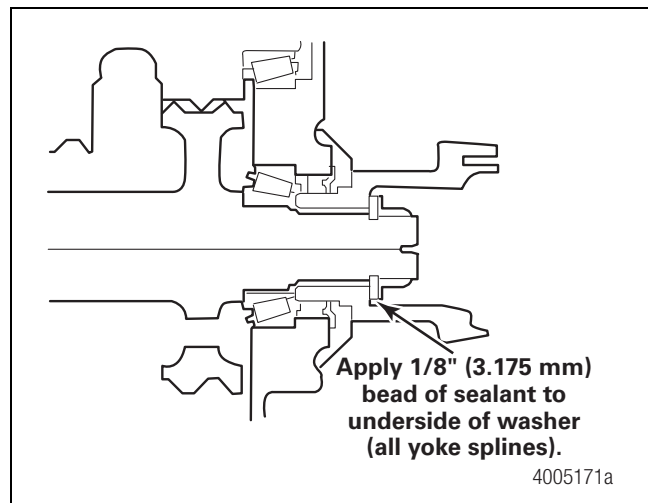

Figure 6.25
8. Before installing the yoke, clean the splines of old silastic. Apply a 1/8-inch (3.175 mm) bead of RTV 732 sealant 360 degrees around the underside of the washer. Figure 6.25.